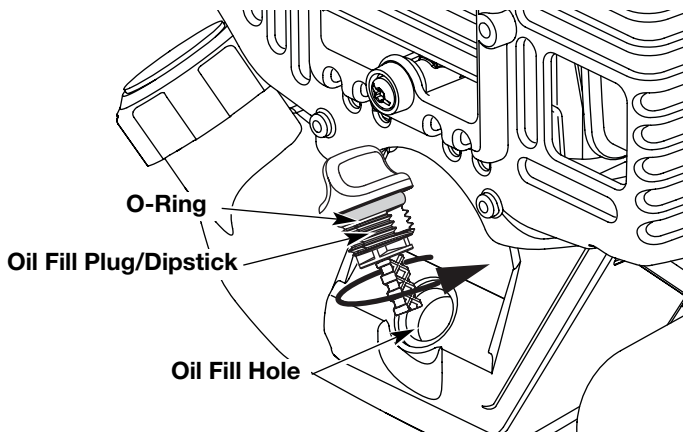

Fig. 7
- Remove the oil plug / dipstick from the crankcase (Fig. 7).